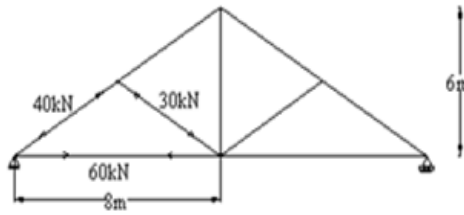

Figure 1
- Design the following members of a roof truss and the forces are shown in Figure 1. Design the connection also and sketch the details. All the forces indicated are service load. [14M]